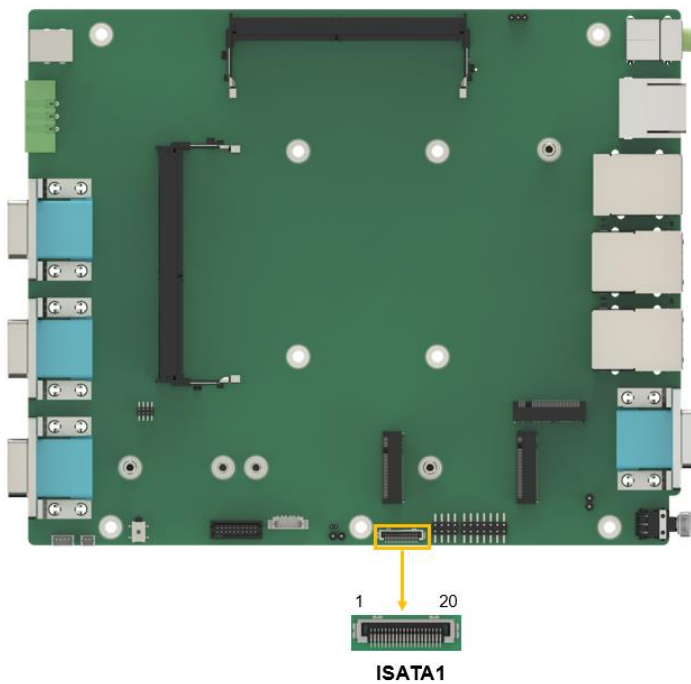

Figure 4-10: Mini SATA Connectors Location
- CN Location:** See **Figure 4-10**